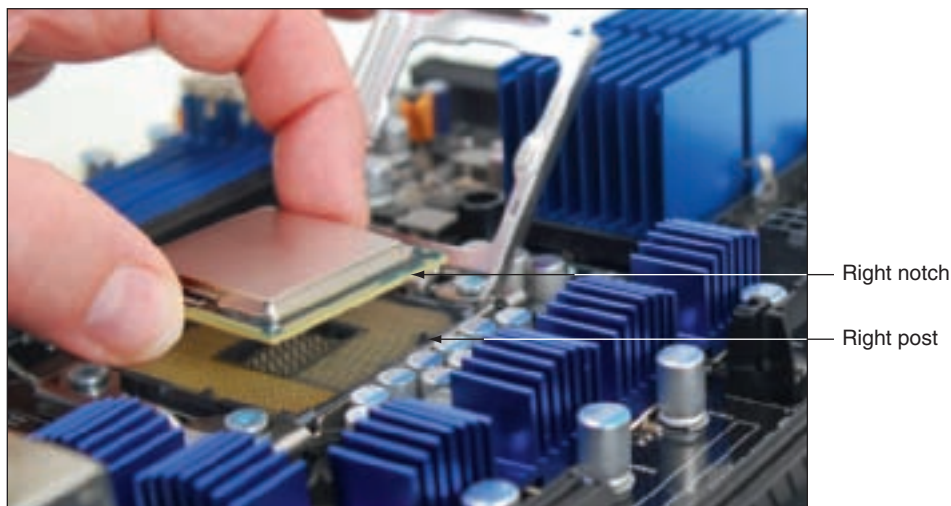

Figure 6-24 Orient the processor over the socket so that the notches on each side of the processor match the posts on each side of the socket
7. Hold the processor with your index finger and thumb and orient the processor so that the notches on the two edges of the processor line up with the two posts on the socket. You can see the notch and post on the right side of the processor and socket in Figure 6-24. Gently lower the processor straight down into the socket. Don't allow the processor to tilt, slide, or shift as you put it in the socket. To protect the pins, it needs to go straight down into the socket.